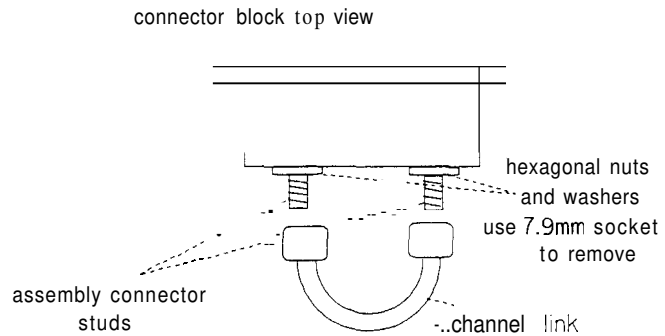

Figure 5-13. Location of hexagonal securing nuts
- Remove the flat hexagonal nuts and washers that secure the threaded SMA assembly connectors to the block, see Figure 5-13. Use a 7.9mm socket for this.
4. Replace the hexagonal nuts and washers on the threaded studs. Refer to Figure 5-13.